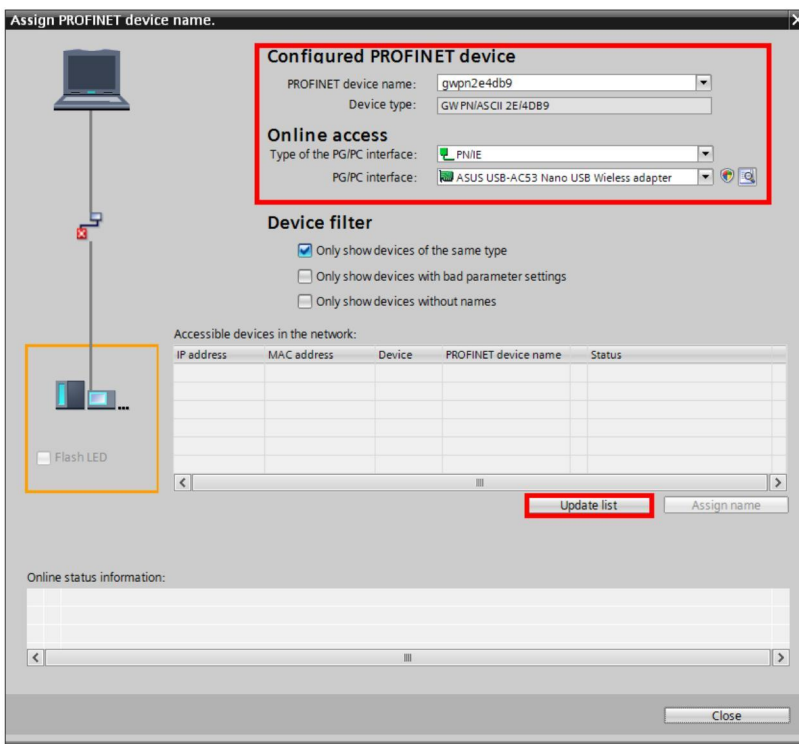

Figure 14 “Assign PROFINET device name” dialog box
- Click the device icon, and then click the “NAME” button to assign the IP address and Device name to the device, Clicking the “Name” button opens the “Assign PROFINET device name” dialog box (see Figure 14)